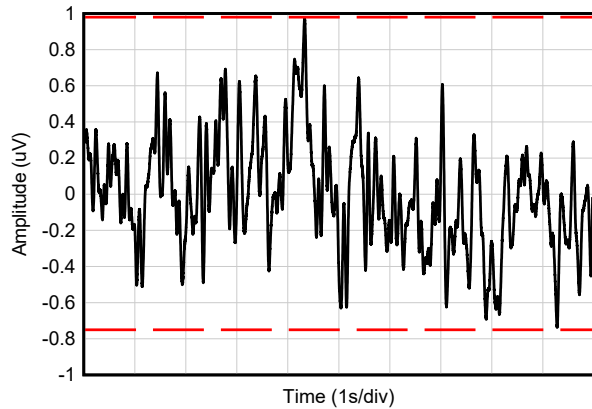

Figure 6-19. 0.1-Hz to 10-Hz Noise
0.1-Hz to 10-Hz Noise	Figure 6-19